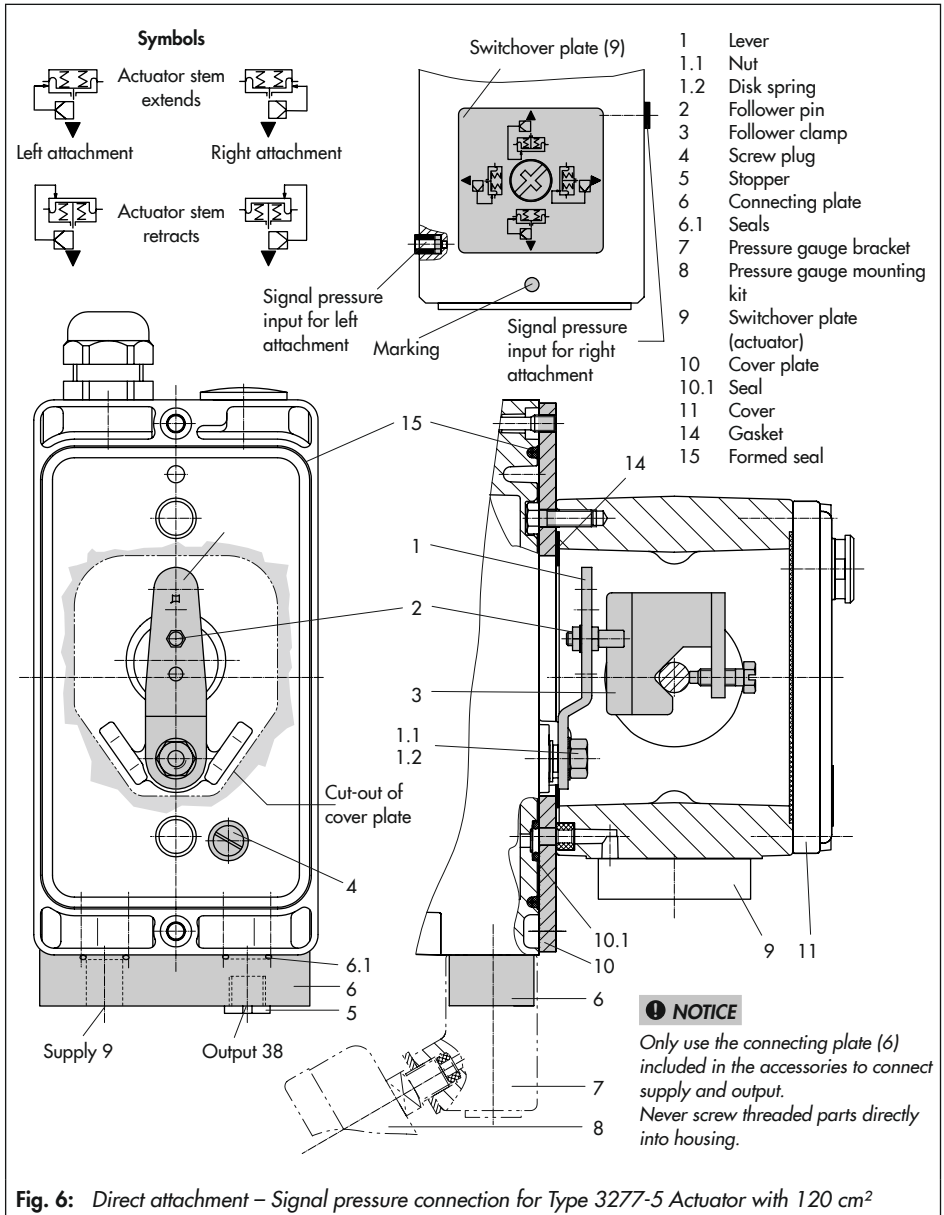

Fig. 6: Direct attachment – Signal pressure connection for Type 3277-5 Actuator with 120 cm²
Actuator with 120 cm² (see Fig. 6)
3. Mount connecting plate (6) or pressure gauge bracket (7) with pressure gauges on the positioner, making sure the two seals (6.1) are seated properly.
4. Remove screw plug (4) on the back of the positioner and seal the signal pressure output (38) on the connecting plate (6) or on the pressure gauge bracket (7) with the stopper (5) included in the accessories.
5. Place follower clamp (3) on the actuator stem, align it and screw tight so that the mounting screw is located in the groove of the actuator stem.
6. Mount cover plate (10) with narrow side of the cut-out (Fig. 6, on the left) pointing